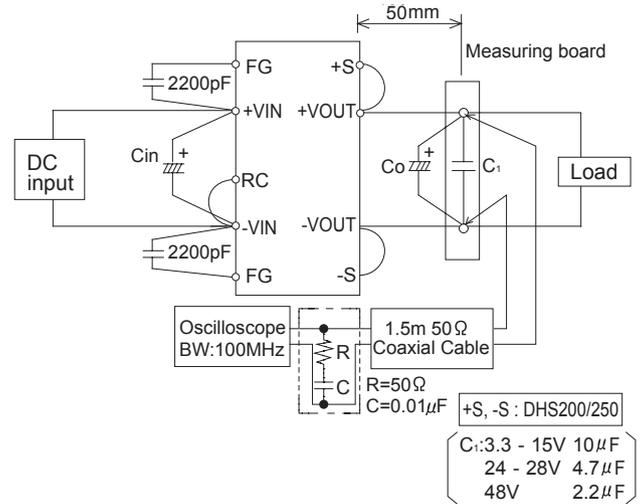

Fig.2.5 Method of Measuring Output Ripple and Ripple Noise
■The specified ripple and ripple noise are measured by the method introduced in Fig. 2.5.